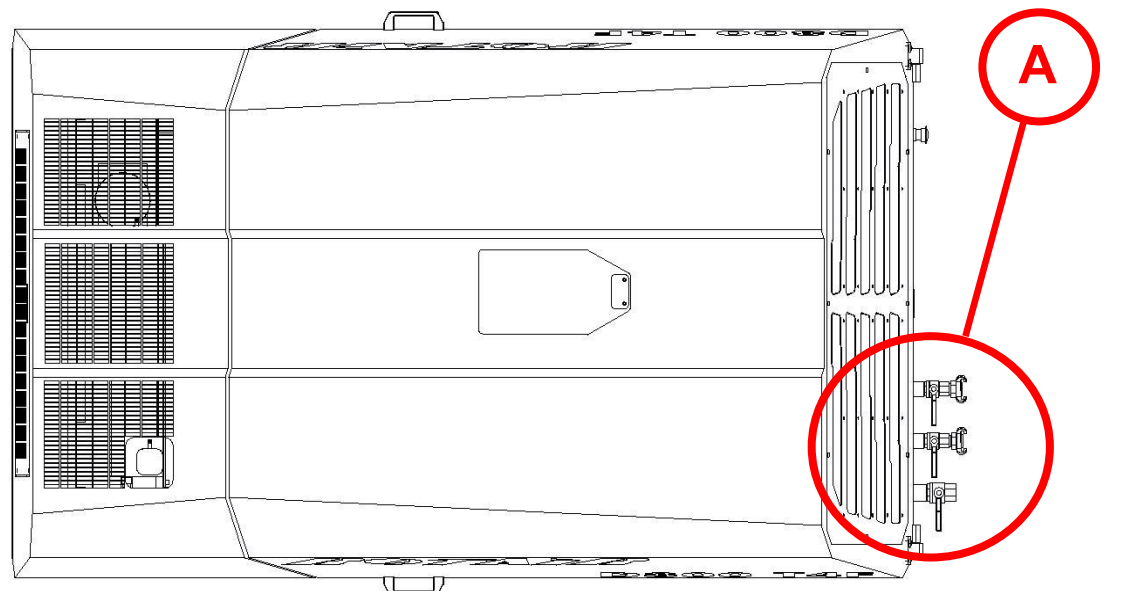
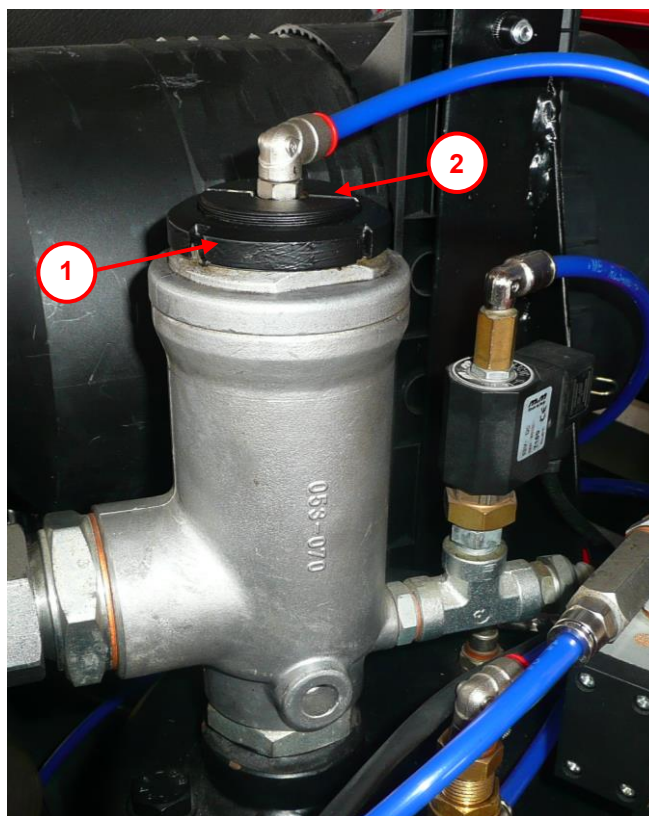

Figure 10.2.1 Location of the air valves (top view)
Figure 11.3.1 Adjusting minimum pressure pneumatic circuit
- 3) Progressively open the air valves (Letter A, Figure 10.2.1).
- 3) Close all air valves (Figure 10.2.1)
- 3) Close all air valves (Letter A Figure 10.2.1)
- 4) Open the hood with the engine running and loosen the lock nut (1 in Figure 11.3.1) on the maximum pressure valve
- 5) Tighten the regulation screw (2) to increase the pressure to the desired value
- 6) Loosen the regulation screw (2) to reduce the pressure to the desired value
- 7) Tighten the lock nut (1) and close the air valves
- 8) Slowly open an air valve (Letter A Figure 10.2.1) and close it again, repeating the process a few times to allow the settling of the valve